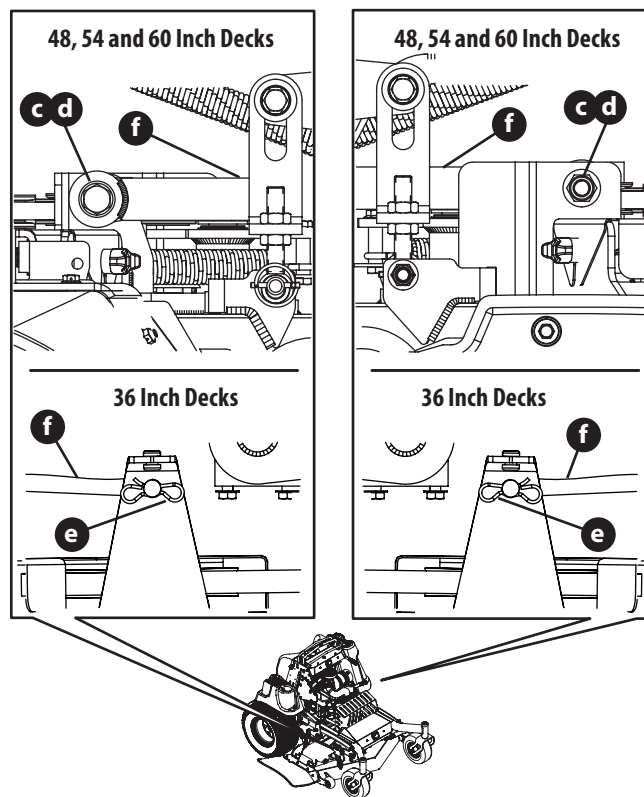

Fig. 37
- Remove the hex screws (c) flange lock nuts (d) (48, 54, and 60 inch decks) or the bow tie clips (e) (36 inch decks) securing the front deck control rods (f) to the deck (Fig. 37).